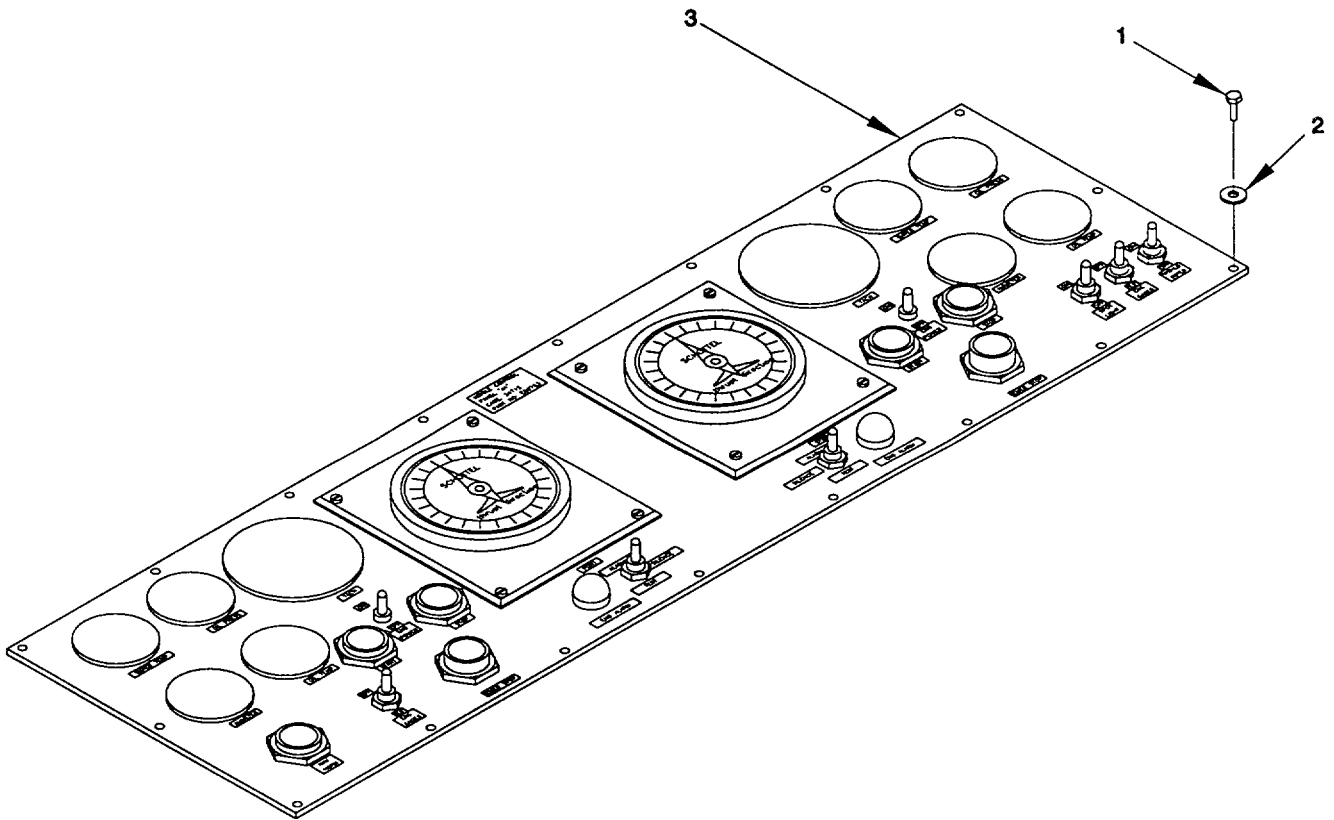

Figure 2-114. Middle Control Panel "A1", Remove/Install
- a. Remove. (figure 2-114)
- (1) Disconnect and tag electrical wires to middle control panel (3). Refer to Appendix G.
- (2) Remove eighteen pan head screws (1) and eighteen lockwashers (2) securing middle control panel (3).
- (3) Lift out panel (3) being careful not to bend or chafe wiring.
- (4) Inspect per step b. Cut a sufficient length of heat shrink tubing to cover exposed surfaces of female terminals. Spiral wrap is used to bundle the wires into a wiring harness. Wiring is held in place with tie wraps and mounting bases as necessary. The electrical connector is used to connect jumper wires for termination of intermediate devices. Heat shrink tubing is used to cover terminals.
- c. Install. (figure 2-114)
- (1) Apply antiseize compound to pan head screws (1).
- (2) Position middle control panel (3). Secure with eighteen lockwashers (2) and eighteen pan head screws (1).
- (3) Reconnect electrical wiring, as tagged. Refer to Appendix G. Use cable ties and mounting bases to secure any loose wiring.